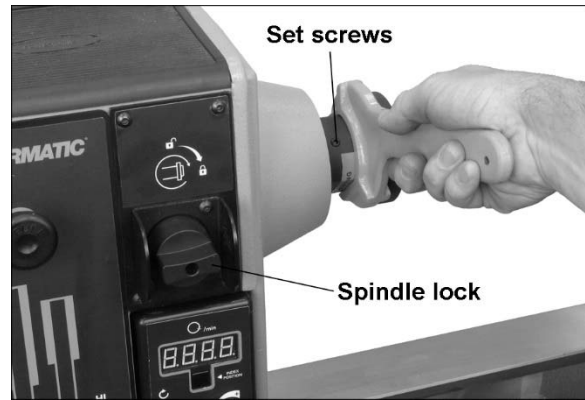

Figure 8-8: faceplate
3. Rotate spindle lock switch (Figure 8-8) and rotate handwheel slightly until lock engages with spindle.
WARNING If at any time you will be reversing spindle rotation, make sure the two set screws in the face plate are tight! One of these is shown in Figure 8-8. Failure to do this may cause face plate to loosen from headstock spindle.
5. To remove face plate, loosen the two socket set screws (Figure 8-8). Engage spindle lock switch and turn face plate counter-clockwise with face plate wrench, as shown.
WARNING When turning with a face plate, make sure both set screws on the face plate are tight (see Figure 8-8) before reversing spindle. Failure to comply may cause face plate to spin loose from spindle.